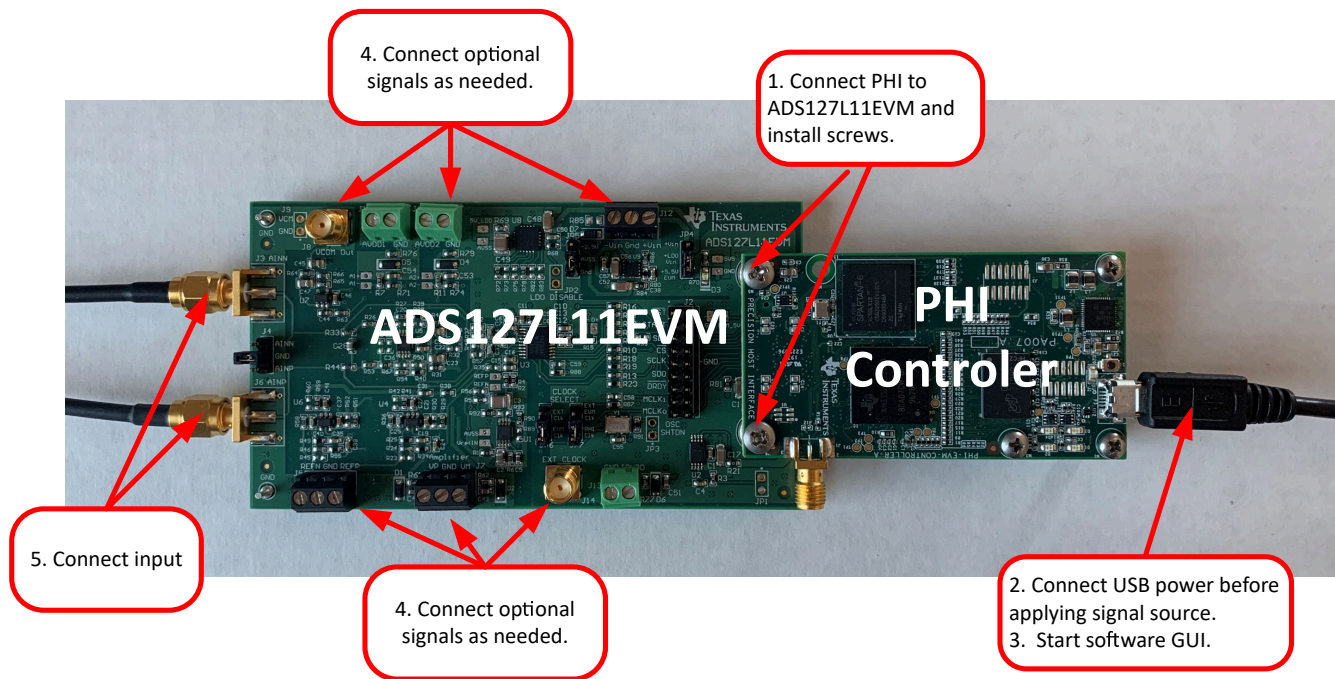

Figure 6-1. Connecting the Hardware to the ADS127L11
After installing the software, connect the EVM as shown in Figure 6-1:
- b. LEDs D1 and D2 on the PHI start blinking to indicate that the PHI is booted up and communicating with the PC; Figure 6-1 shows the resulting LED indicators.